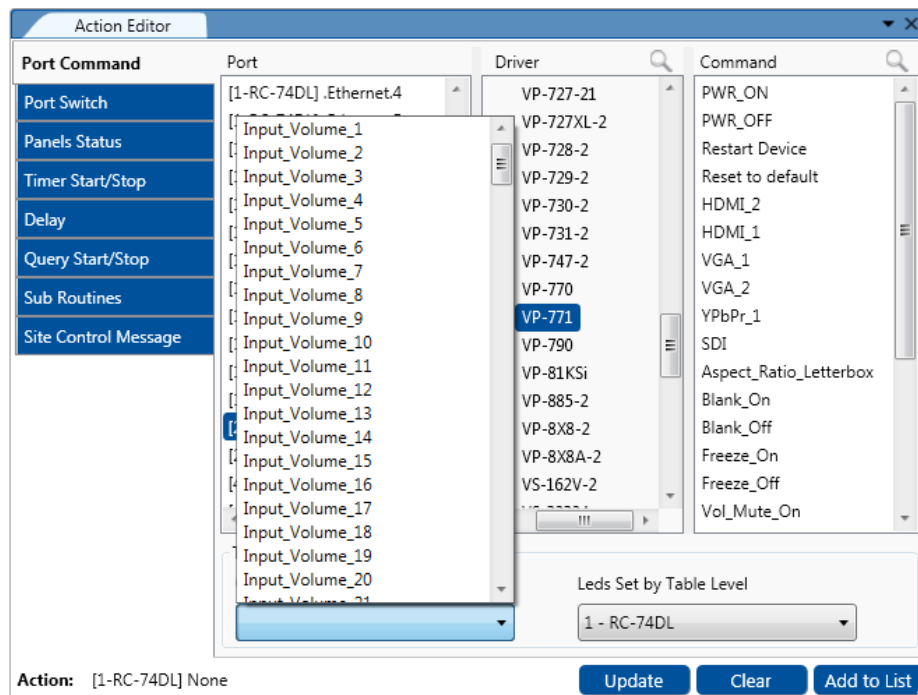

Figure 259: The Table Port Command – Setting a specific Volume Level
- Set the behavior of the table commands to go gradually up, down, or set to a specific value. If you click Set, you can choose a specific volume level (see Figure 259):